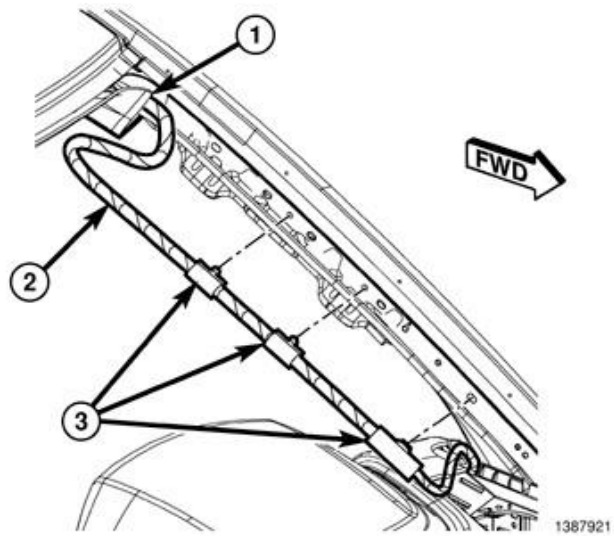

Figure 82 – Headliner Harness
24. As necessary, release the headliner wiring harness clips (3) from the A-pillar to allow enough wiring harness slack for lowering the headliner (Figure 82).
48. Reattach any headliner wiring harness clips (3) removed from the A-pillar to allow slack while lowering headliner (Figure 82).